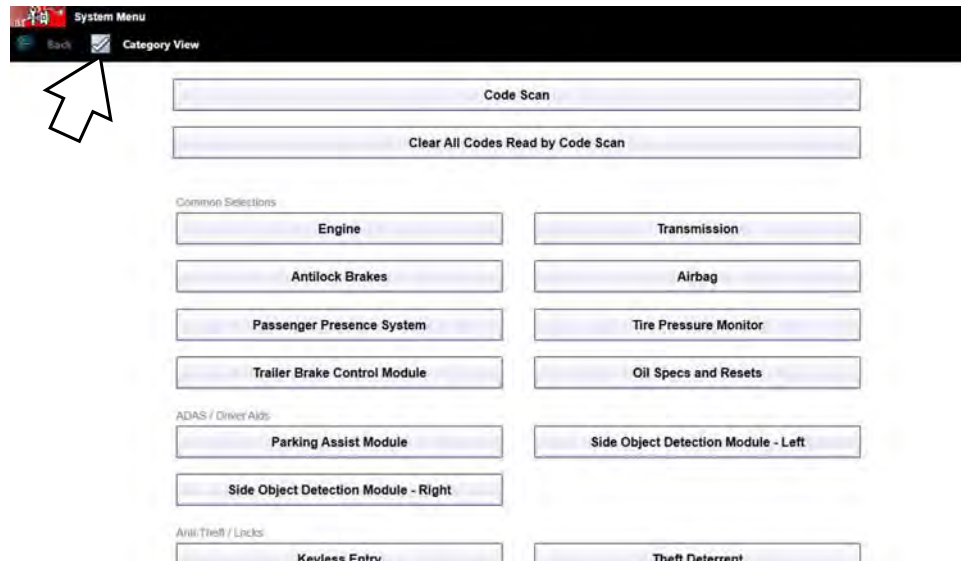
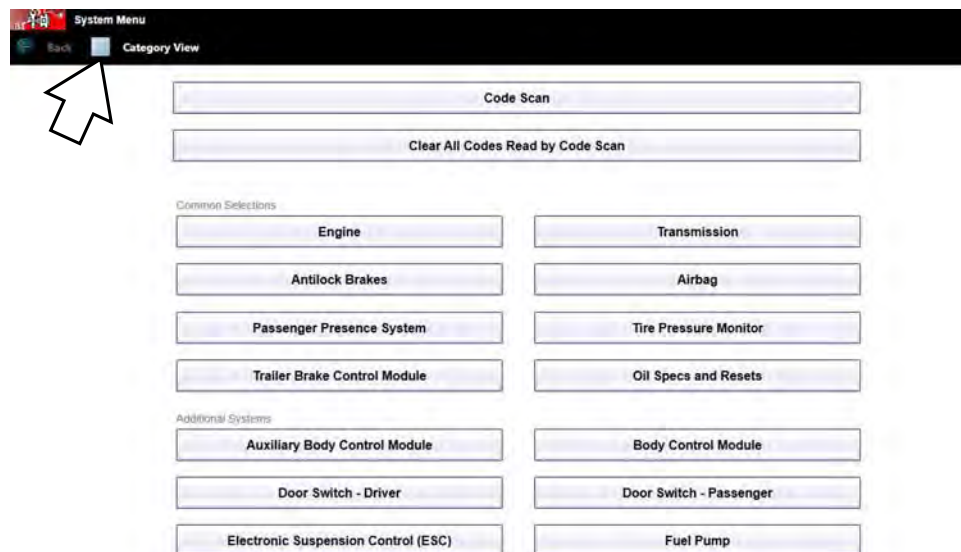

Figure 4-15 Systems menu "Category View" Selected
Figure 4-16 Systems menu "Category View" Not Selected
1. After the vehicle has been identified, a list of available systems for testing displays (Figure 4-16). Select a system to continue.
The System menu can be displayed in two views, by individual system categories or by common vehicle system categories. To change the view, select/deselect the **Category View** checkbox in the upper toolbar. Typical views are shown in (Figure 4-15 and Figure 4-16).